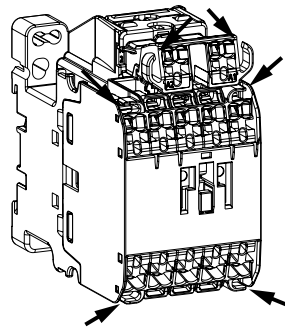

Fig. 7. Location of wire holders and wire insertion direction
- Push the wire into the direction of the arrow, Fig.7.